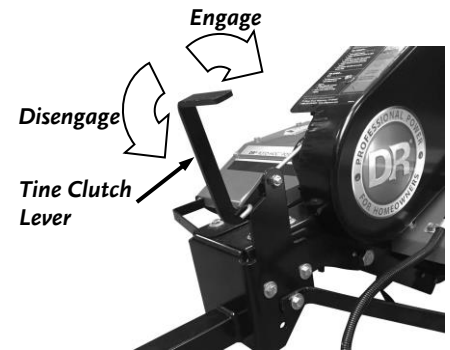

Figure 15
1. Push the Tine Clutch Lever towards the back of the machine to engage the Tines (**Figure 15**).
1. Pull the Tine Clutch Lever Forwards to disengage the Tines (**Figure 15**).